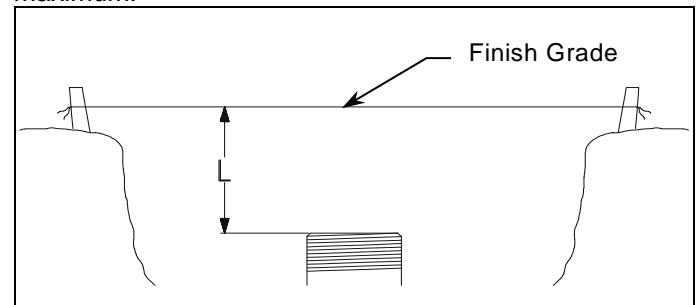

Figure1
Step 2: (See Figure 1 & 2)
Mark off finish grade. (See Figure 1.)
Note: Add an extra 3-1/4" when using an OPW FSA-400 Face Seal Adaptor, recommended for Composite Base. Add an extra 1 ¾" when using the FSA-400-S Face Seal Adaptor, recommended for Cast Iron Base. (See Figure 1.)